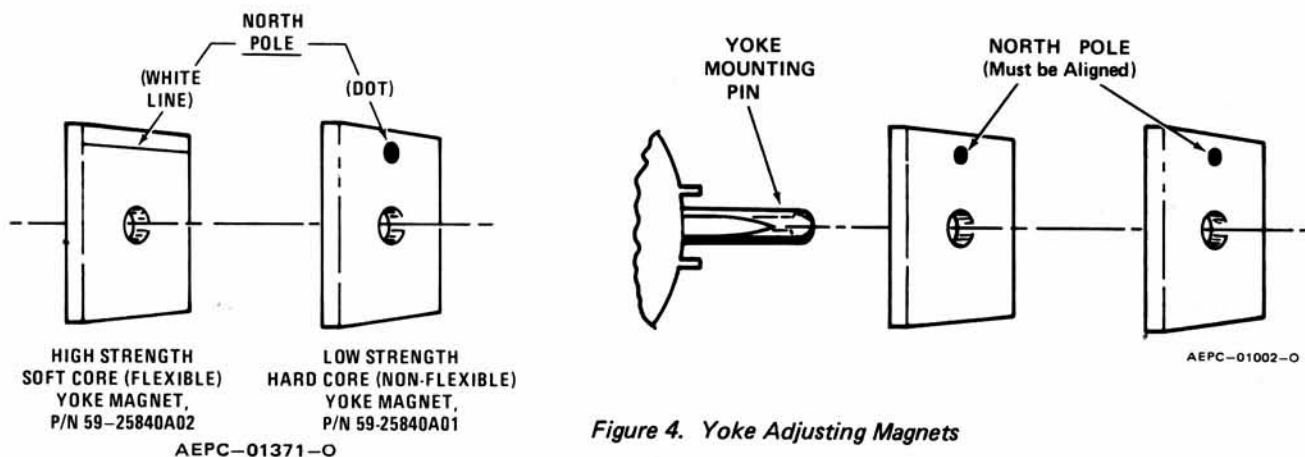

Figure 4. Yoke Adjusting Magnets
There are two (2) different strength yoke magnets available for correcting CRT geometry. The soft core (or flexible) magnet is the stronger of the two magnets. (Reference Figure 4 to identify their north poles.) Pincushion and trapezoidal correction generally require high strength magnets, and barrel correction requires a lower strength magnet for correction.
- Step 3. If the desired raster cannot be obtained, add a second magnet to the yoke mounting pin. Both magnets must be aligned as shown in Figure 4; then rotated simultaneously.